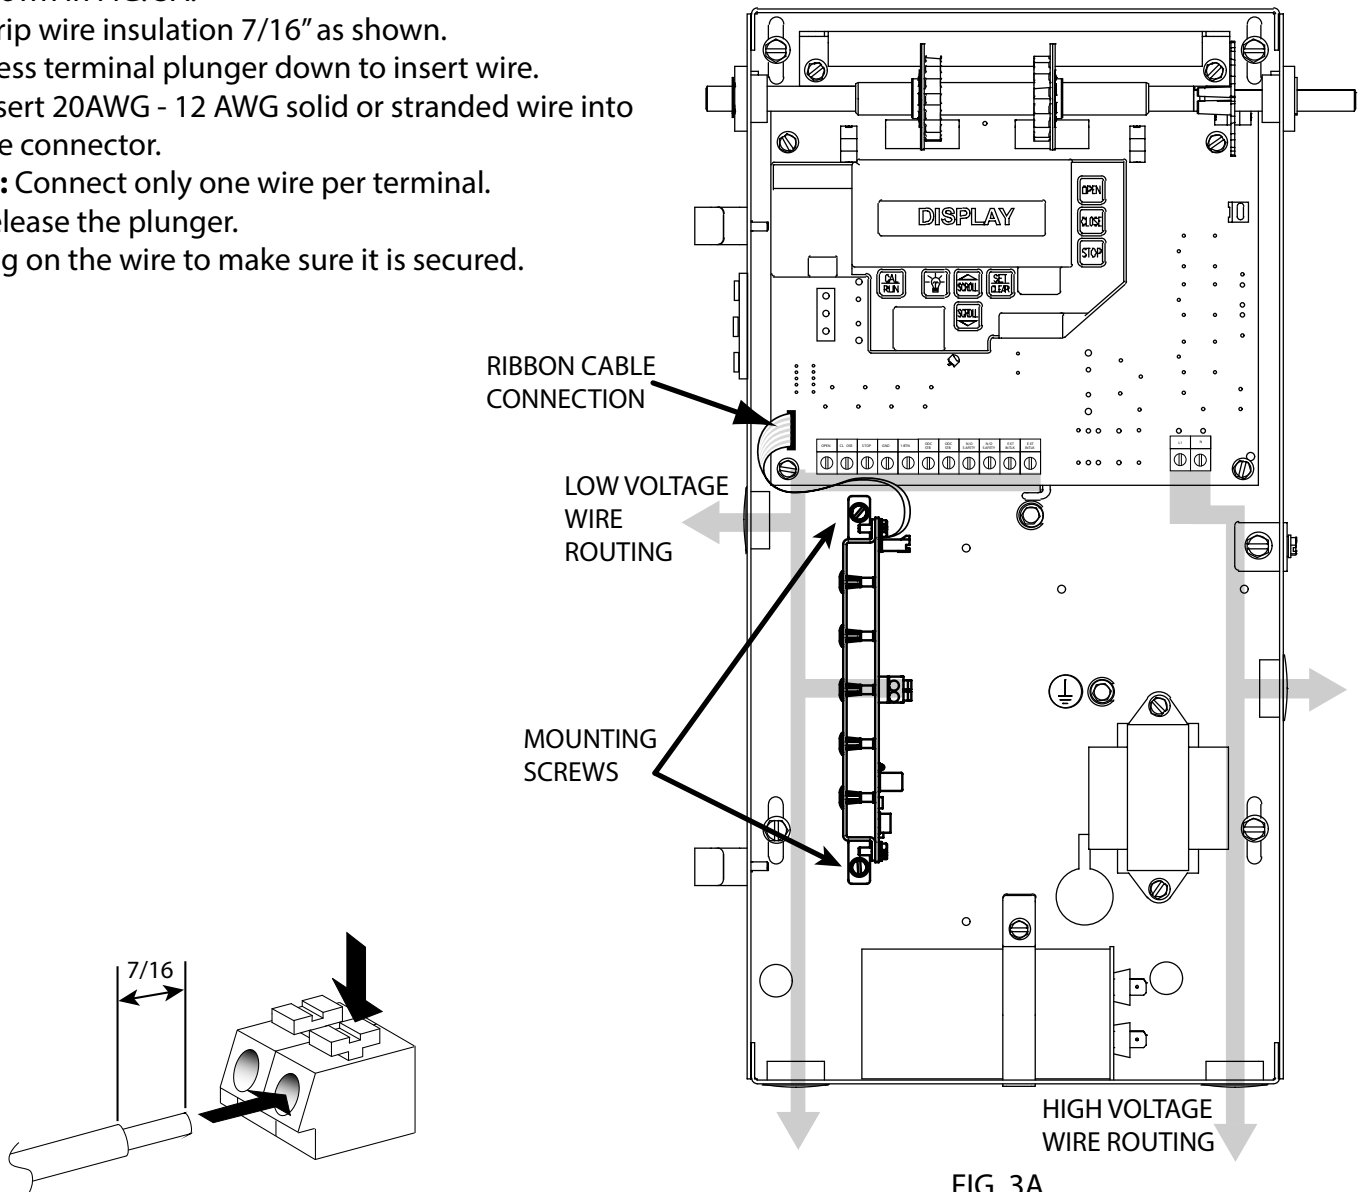

FIG. 3A
1. Route Sensing Edge wiring to electric box as shown in FIG. 3A.